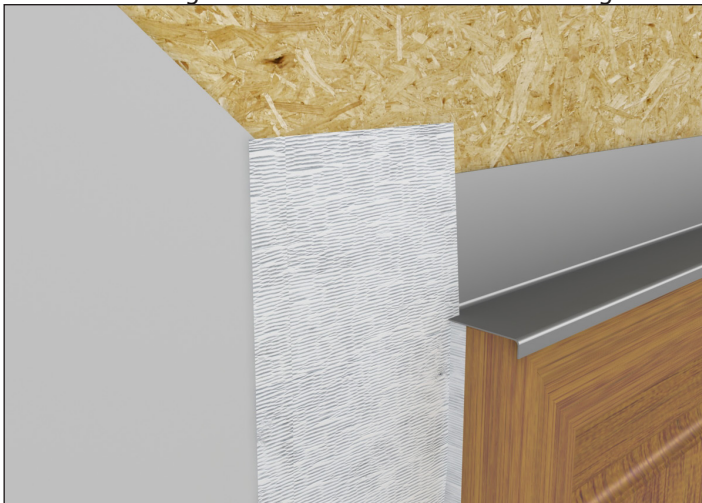

Figure 31
2. Lap vertical strips of flashing onto the unit and out over the weather resistive barrier. Make small cuts at the head jamb to allow the flashing to fold back onto the exterior. See figure 31.